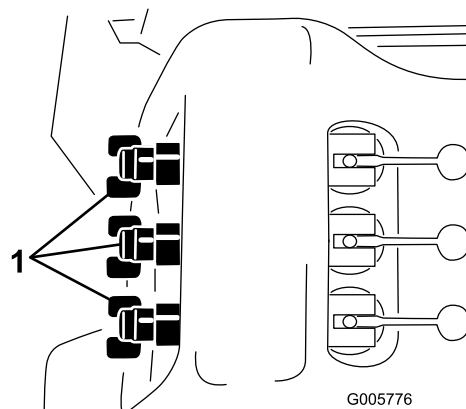

Figure 28
- Adjust the boom bypass valve (Figure 28) under the boom control valve for the boom you turned off until the pressure reading on the gauge is the same as it was in step 9.